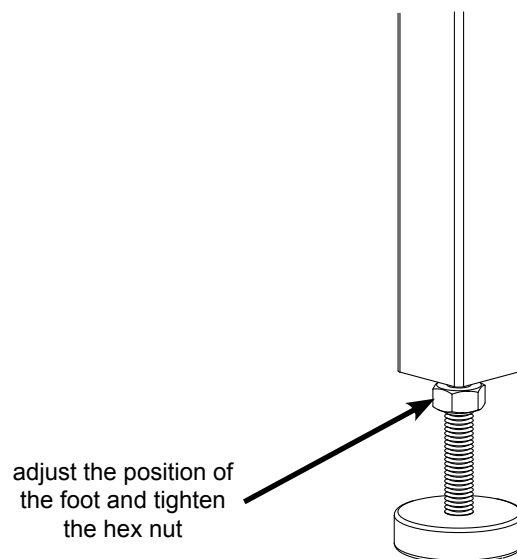

Fig. 16
16. Turn the foot on the bottom of each support leg to adjust its position until it is in solid contact with the ground. Once the foot is in contact with the ground, fully tighten the hex nut against the bottom of the leg using a 13 mm wrench (see Fig. 16).